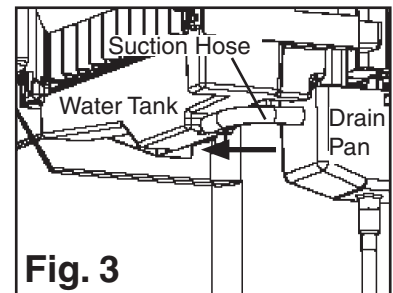

Fig. 3
- 6) Disconnect the suction hose to drain the water. See Fig. 3.
- 5) Disconnect the suction hose to drain the water. See Fig. 3.
- 3) Open the door. Disconnect the suction hose to drain the water. See Fig. 3.